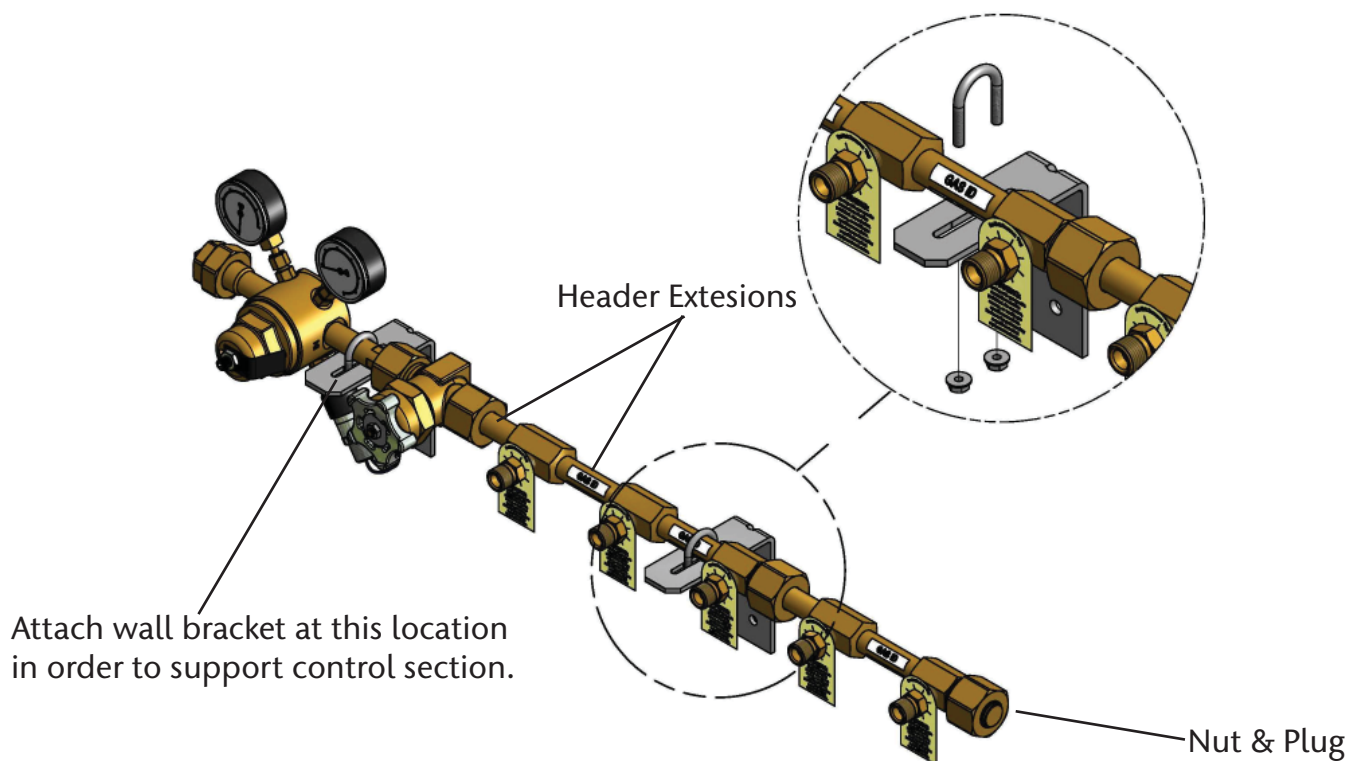

Figure 10
1. Attach master valve to the control assembly. Attach appropriate header extension to control section. Position cylinder inlet connections of each header extension so they are pointing out. Additional header extensions may be attached end to end if required. Install large nut and plug on end of last header extension (Figure 10).
3. Depending upon number of header extensions, two or more header brackets will be provided. Header brackets should be positioned along length of high-pressure reserve header assembly and should contact header directly between cylinder connections. A header bracket will typically be provided for each header extension. Measure centerline distance between header brackets and transfer those measurements to horizontal line described in step 2 as shown in Figure 10.
6. One more wall bracket should be installed to support left side of reserve header assembly as shown in Figure 10.
Distance between wall brackets to be determined by installer. Depending upon reserve header configuration, multiple brackets may be required. A bracket is provided for each header segment and should contact header between cylinder connections as shown in Figure 10.